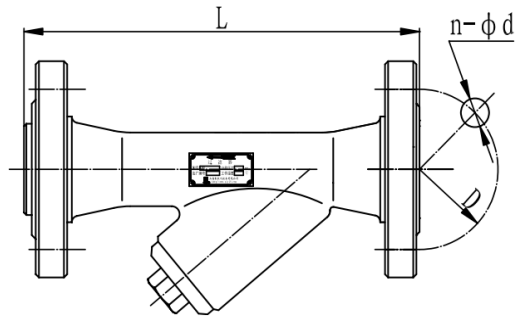

Figure 4 Tilting Plug Filter
2) The Dimensions & Installation Reference of LPGX Tilting Plug Filter (See Figure 4; Table 4)